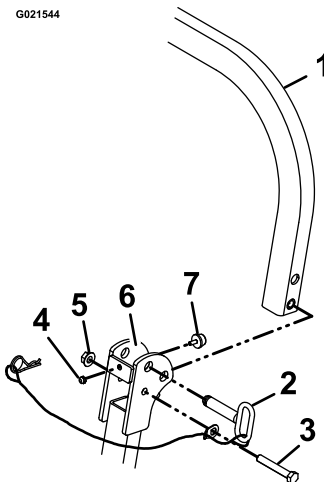

Figure 6
3. Lightly oil the inside surfaces of the ear-shaped plates at the upper end of the lower roll bar tubes as shown in Figure 6.
4. Locate the upper u-shaped section of the roll bar. Install the upper roll bar section using one 1/2-13 x 3 1/4 inch capscrew and one 1/2-13 inch hex flange lock nut on each side (see Figure 6). Do Not overtighten. Make sure the upper roll bar can pivot freely.